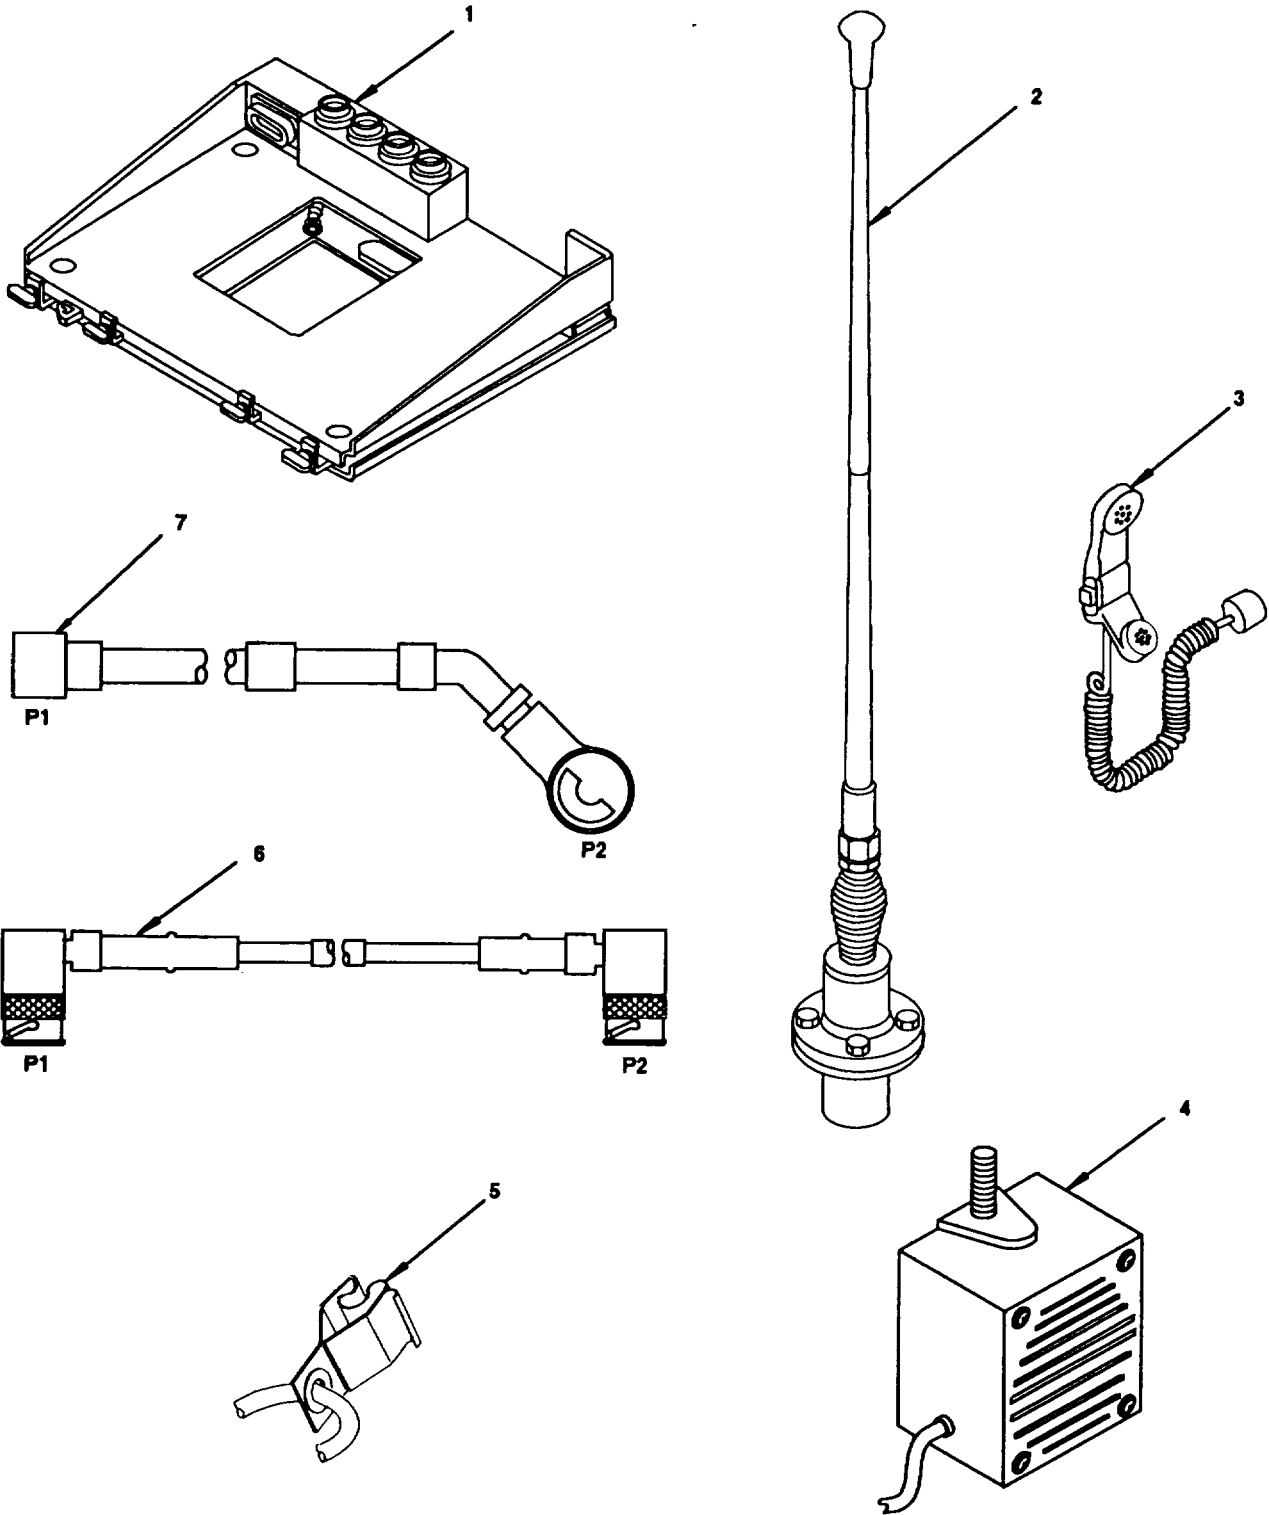
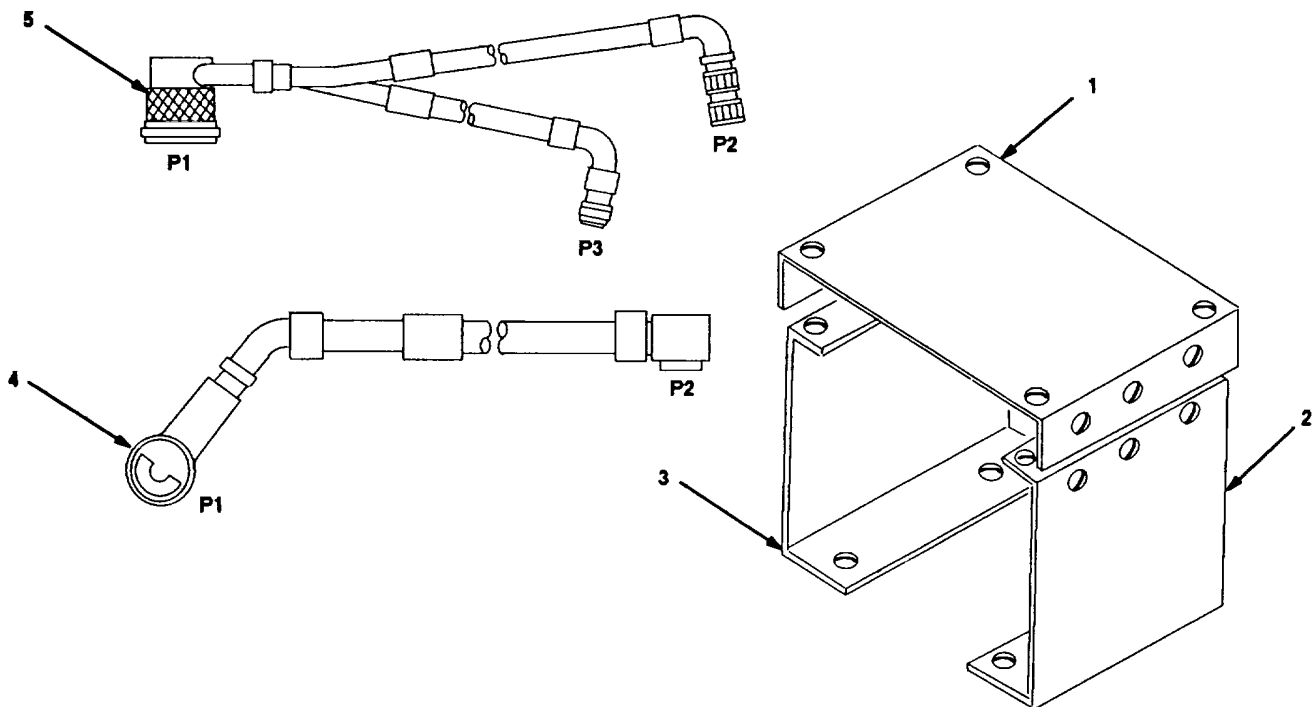

Figure 4-1. MK Illustrated Parts List
Figure 4-2. TSEC/KY-57 Illustrated Parts List
4.3.1 Items Supplied in MK and/or Required for Installation. Use Table 4-1 and figure 4-1 to identify and inventory MK parts supplied to install Radio Set AN/VRC-90 Series. Refer to Table 4-2 and figure 4-2 to identify additional items required to install when using RT-1439/VRC.